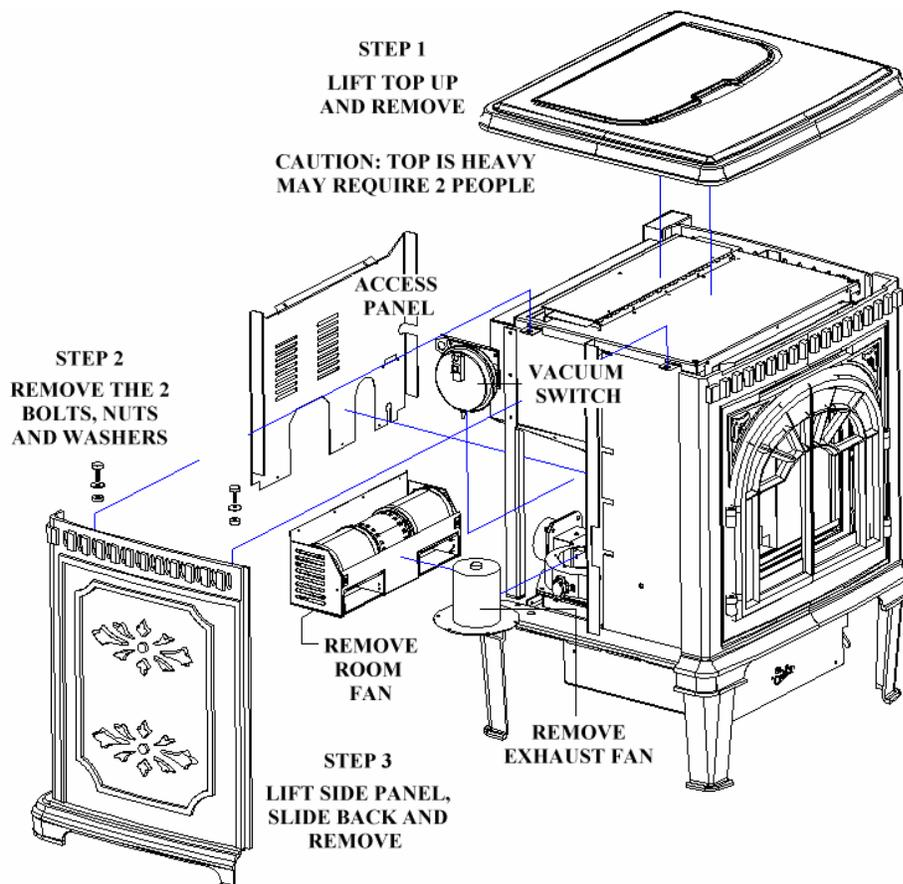

Figure 9
4. The Exhaust Fan and Room Fan should be removed and cleaned annually. Use compressed air to blow out the motors. Call dealer for this service. Annual oiling of the motors is not needed. (See fig. 9 for more information)